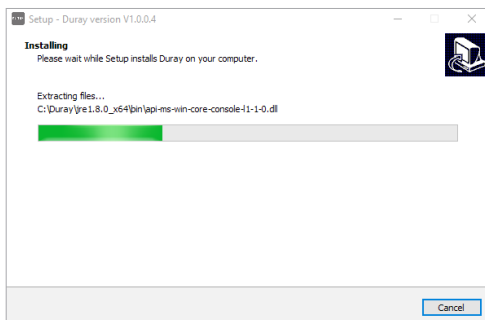

Figure 9
g) After the “Install” button is clicked, the program starts to install. The user just waits for the completion of installation, as shown in Figure 9: